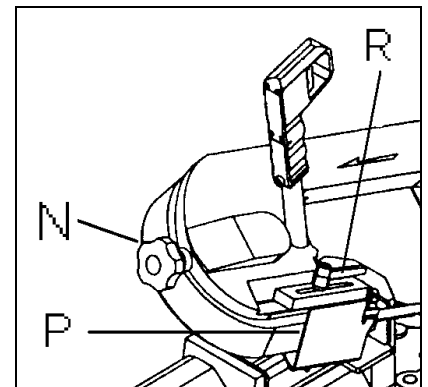
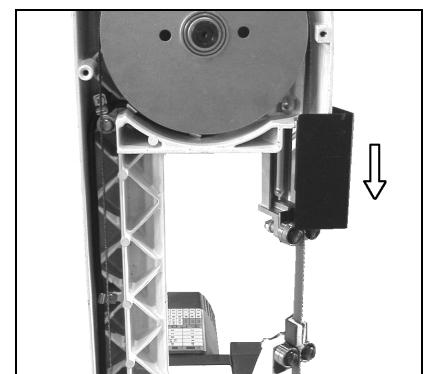

Fig 4
Fig 5
Release the handle (R, Fig 4) and lower the blade guide and cover (P) as far as possible (Fig 5).
Loosen the indexable knob (R, Fig 4) and slide blade guide assembly as close as possible without interfering the material being cut. Tighten knob.